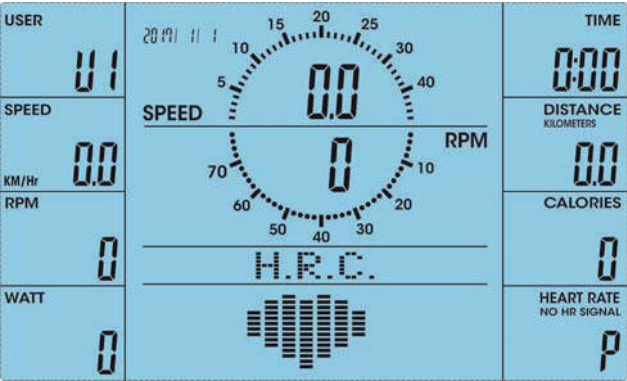
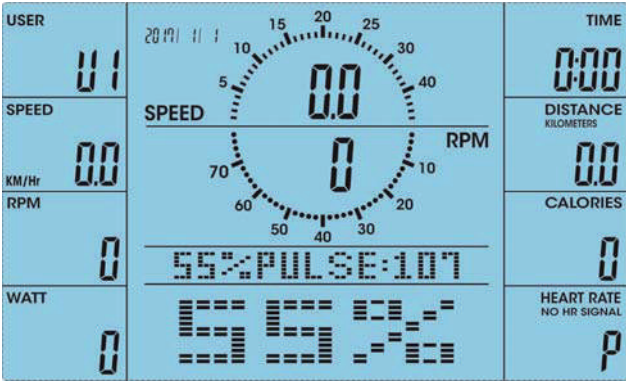

FIGURE 38
FIGURE 39
- 1. After enter HEART RATE CONTROL mode (FIGURE 38), the screen will show heart rate percentage 55%, 75%, 90% and TARGET (FIGURE 39~42). User may select heart rate percentage by pressing UP or DOWN for training.